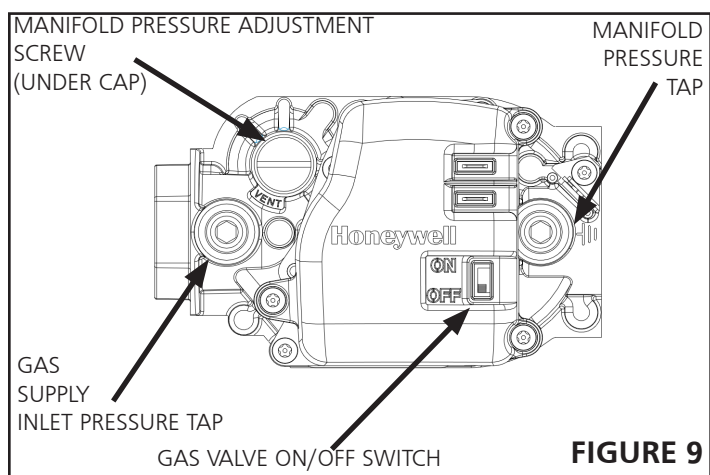

FIGURE 9
5. There is an ON/OFF switch that can be moved between the on and off position. Toggle the switch to the off position. (See Figure 9)
2. After line pressure has been checked and adjusted, check manifold pressure. Correct manifold pressure is shown on the unit rating plate. See **figure 9** for gas pressure adjustment screw location. A natural gas to LP/propane gas changeover kit is required to convert unit. Refer to installation instructions provided with changeover kit for conversion procedure.